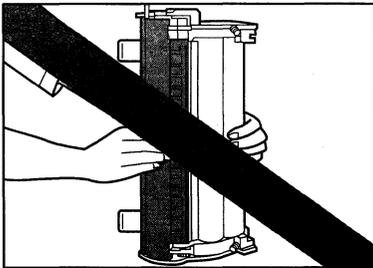

Figure 4-17
- 3) When handling the EP-N cartridge, never touch the shaded area indicated in Figure 4-17. Do not open the drum protection shutter. Opening the drum protection shutter may damage the drum, which will adversely affect the print quality. If the drum surface is dirty, clean it with flannel or other soft cloth sprinkled liberally with toner. Never use a dry cloth, lint-free paper, or solvents.